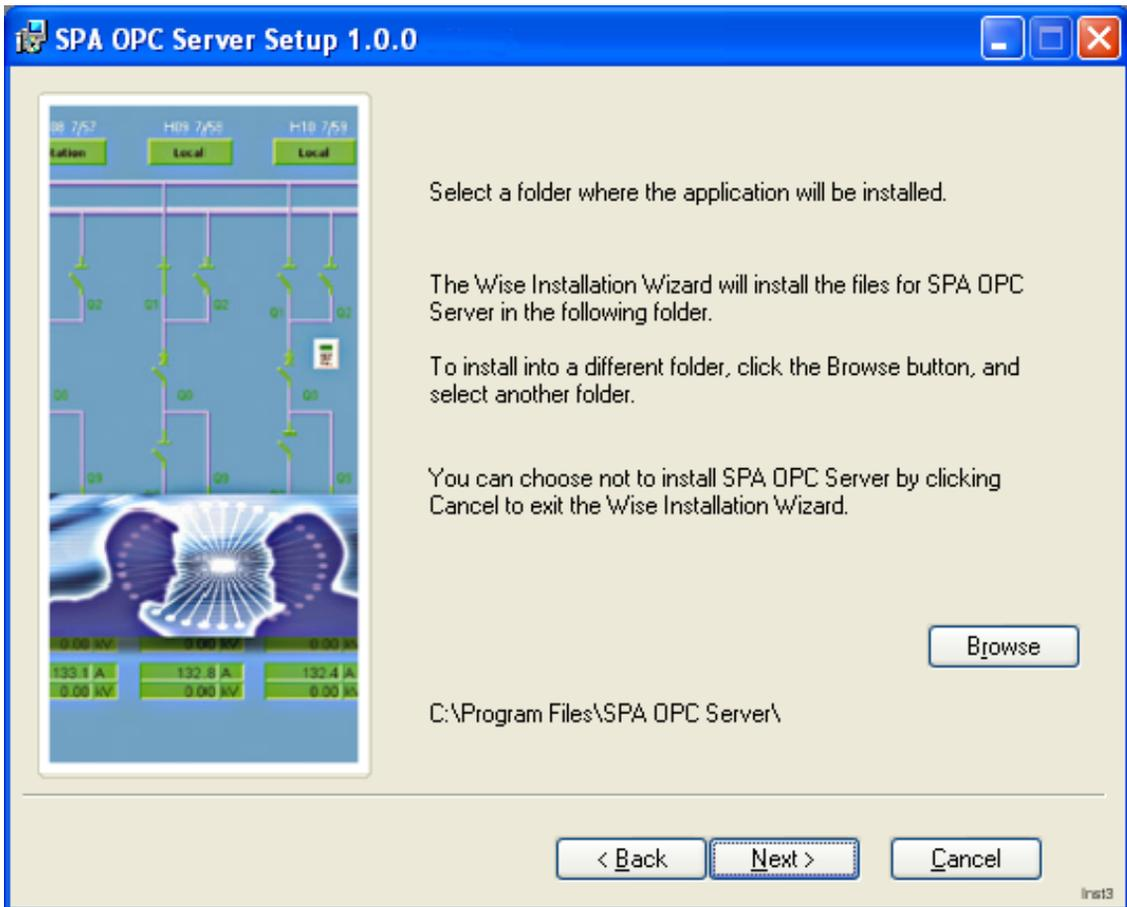

Figure 2-3: Wise Installation Wizard dialog box
3. The Wise Installation Wizard dialog box appears on the screen. The files for the SPA OPC Server are automatically installed in a certain folder. Click **Next** to continue the installation. If you want to install the files in a different folder, choose **Browse**, see Figure 2-3.